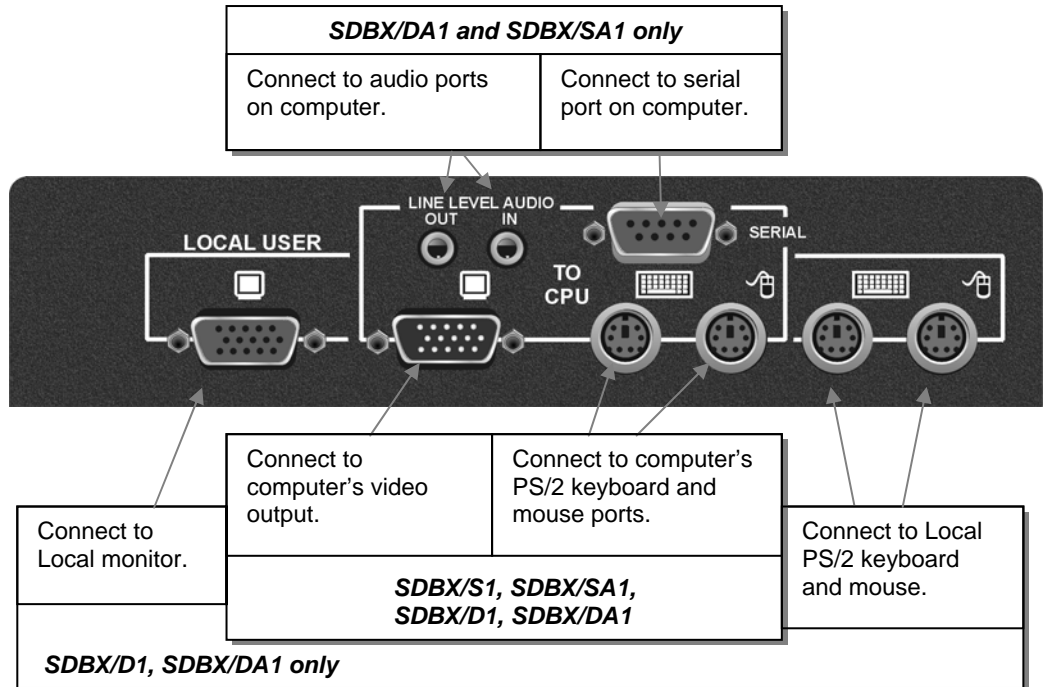
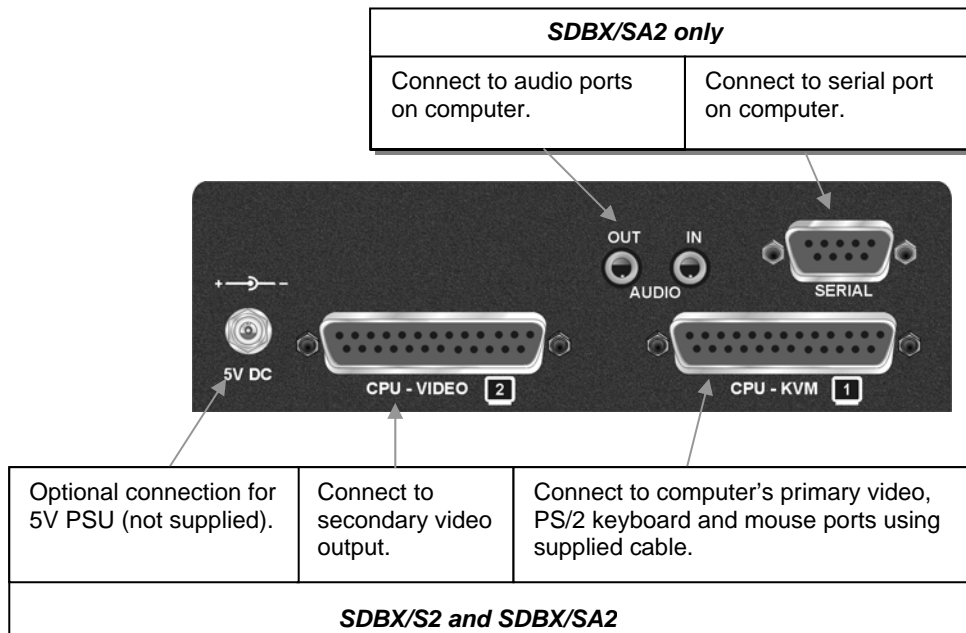

Figure 6 SDBX Local Unit (Single Video) - rear view
Figure 7 SDBX Local Unit (Dual Video) - rear view
2. Using the supplied CPU KVM cable(s), connect the keyboard, monitor(s) and mouse connectors on the computer (or KVM switch) to the corresponding connectors on the Local Unit as shown in Figure 6 for single video units, or Figure 7 for dual video units.